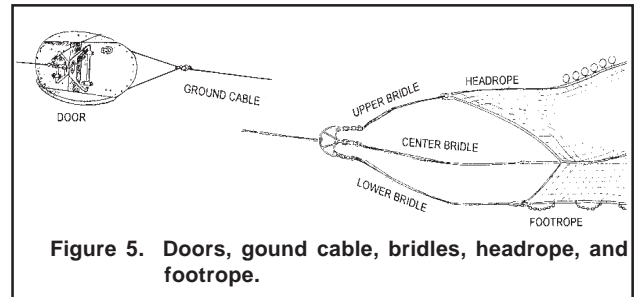

Figure 5. Doors, ground cable, bridles, headrope, and footrope.
Example: If the sweep has 80 feet of 1 inch wire, 25 feet of 3 inch rubber cookies and 15 feet of 5 inch rollers, record “Roller” (5) for SWEEP GROUND GEAR TYPE. See Figure 5.